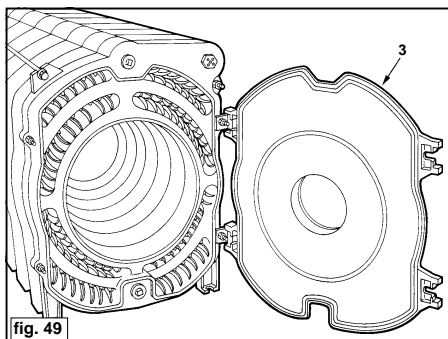

fig. 49
- 3 (fig. 49) Open the door by unscrewing the knobs.